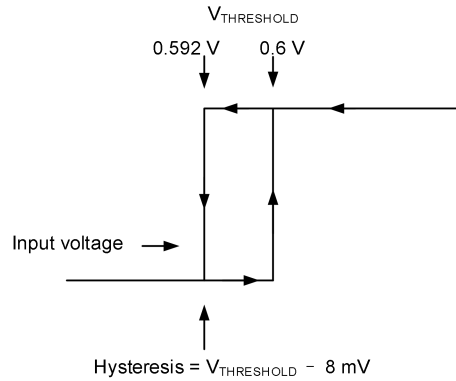

Figure 6. Comparator hysteresis
- (1) Hysteresis refers to the threshold (the threshold specification applies to a rising edge of a noninverting input) of a falling edge on the noninverting input of the comparator; see Figure 6.
- (2) Guaranteed by design.
- (3) V_{ID} refers to the differential voltage at the comparator inputs.
- (4) Pulling the open-drain output to the range of 3 V to 40 V is permissible, regardless of V_S .
- (5) The $\overline{\text{RESET}}$ input has an internal 2 MΩ (typical) pulldown. Leaving $\overline{\text{RESET}}$ open results in a low state, with transparent comparator operation.
- (6) Specifications subject to change without notice.